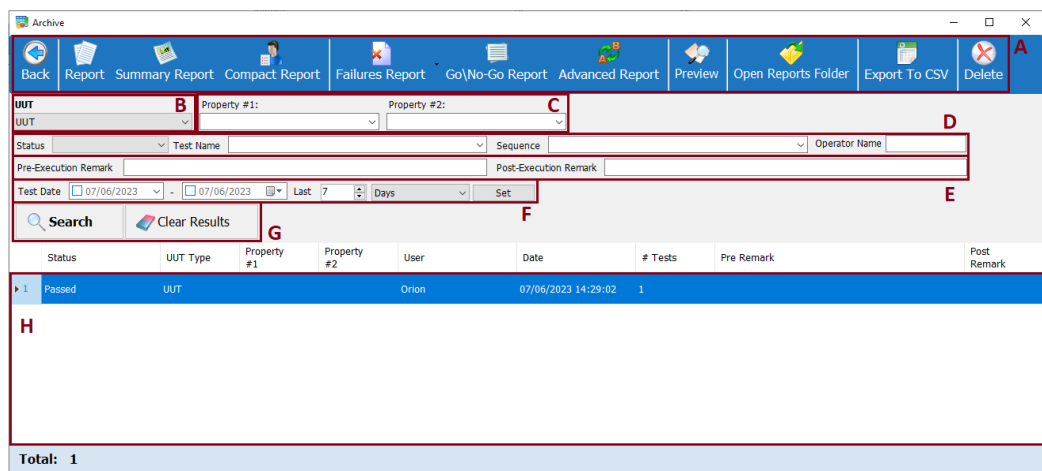

Fig 11-1 Archive window
1. Open the Archive window Fig 11-1:
2. Find the execution using the search filter(s) (refer to paragraph 11.3.3 on page 201) and click the Search button Fig 11-1 \(G\).
3. Under the result area Fig 11-1 \(H\), Select the execution row and click the  button Fig 11-1 \(A\).
11.3.2. Upper Toolbar Fig 11-1 \(A\)
- The first UUT from the UUT list is displayed Fig 11-1 \(B\)
When the search is complete, applicants who match your search filters are displayed in the Result area Fig 11-1 \(H\).
Hover over the executions (Fig 11-1 - H) and select execution.
1. Hover over the executions (Fig 11-1 - H) and select the executions to be merged into the advanced report. Press and hold Ctrl to select more than one execution.